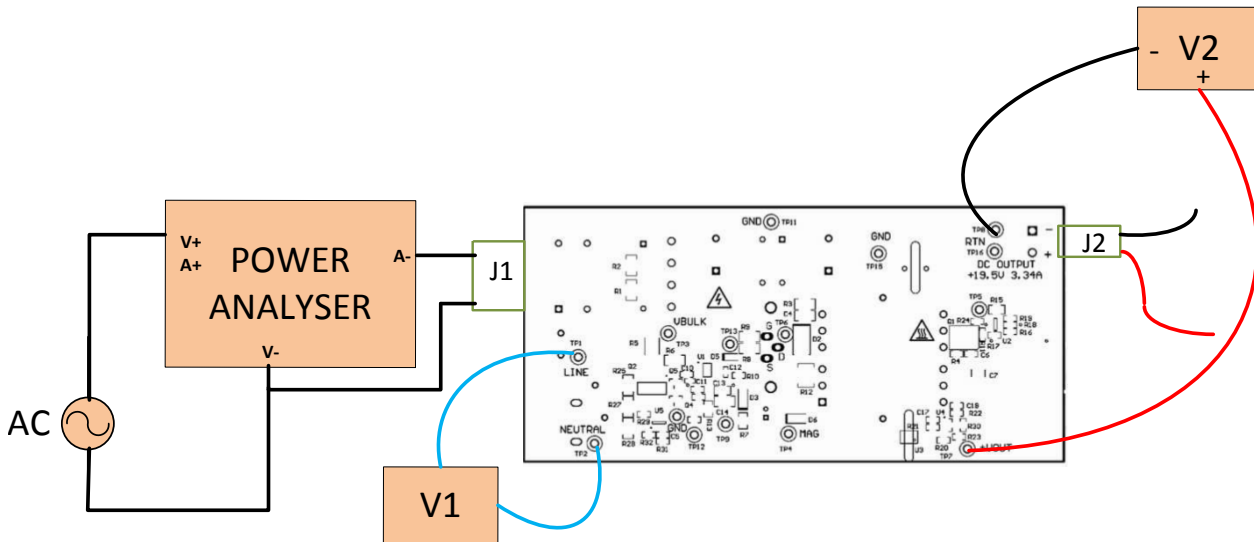
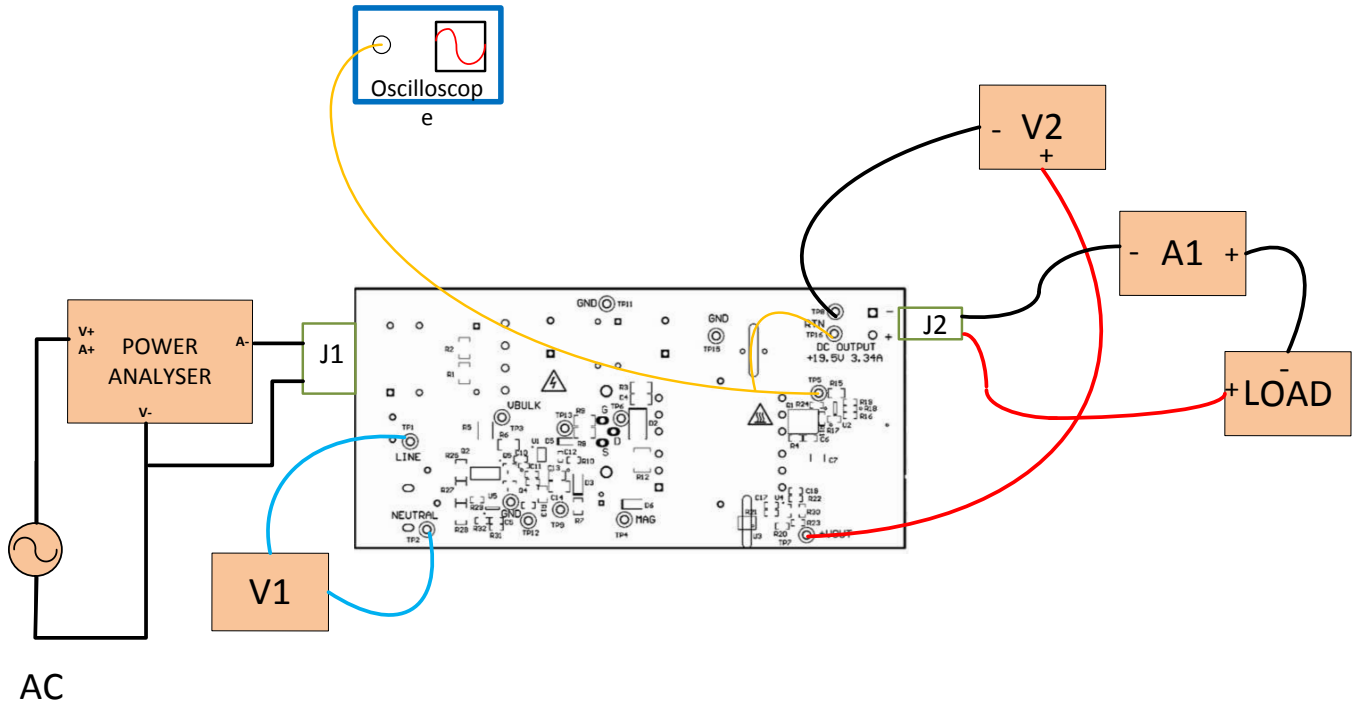

Figure 2. Recommended Test Set Up Without a Load
Figure 3. Recommended Test Set Up With a Load
AC Input Source: The input source shall be an isolated variable AC source capable of supplying between 90 V_{AC} and 265 V_{AC} at no less than 200 W and connected as shown in Figure 2 and Figure 3. For accurate efficiency calculations, a power meter should be inserted between the AC source and the EVM.
Figure 2 shows the equipment set up when testing at no load. The power analyzer should be set for long averaging mode in order to include several cycles of operation and an appropriate current scale factor must be used.
1. Use the test set up shown in Figure 2.
1. Set up the EVM as shown in Figure 3.
1. Use the test set up shown in Figure 3.